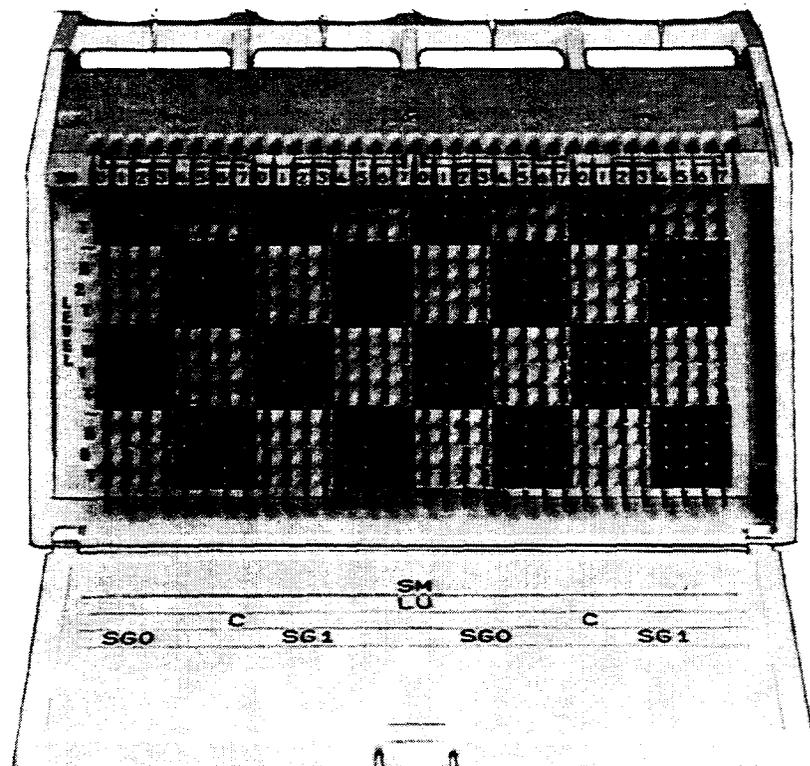

Figure 35—89-Type Connecting Block
8.16 The 89-type connecting blocks (Figure 35) are designed for use with all conventional and low profile conventional distributing frames. They can be utilized to terminate the ESS, 2ESS, 5ESS, and other vendor switches. In addition, they can also be used to terminate all trunk, toll, and miscellaneous circuits.